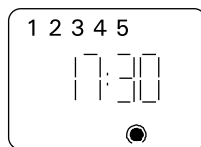

Figure 20.
- using the [Ch] -program button scan the screen for the program timing to be changed. The time and day settings that appear in the screen can be altered using the appropriate switches, as explained in 2.2.3. (Fig. 20)